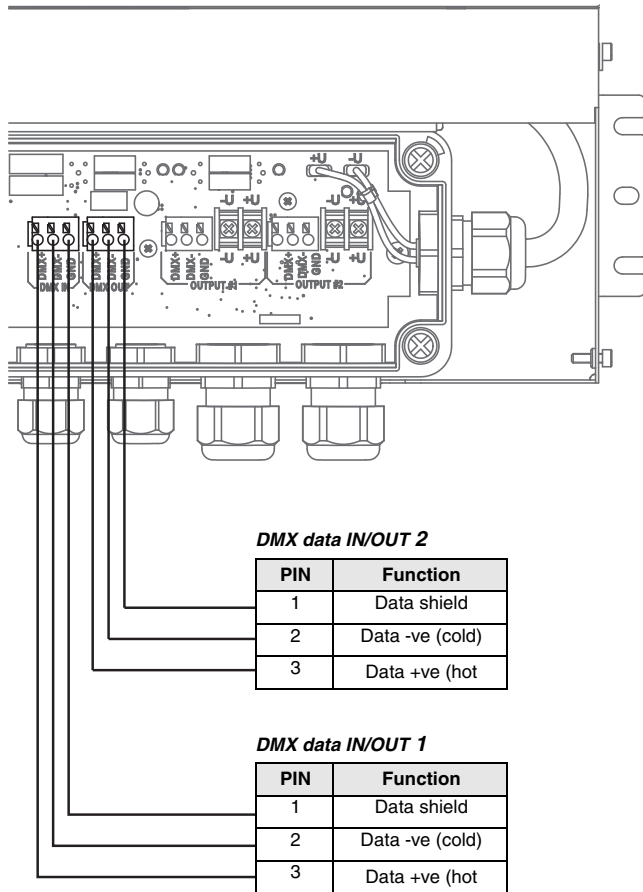

Figure 12: DMX control data pinouts in PSU
4. See Figure 12. Connect the wires from the DMX data input cable to the terminals marked **DMX IN** in the PSU as follows: